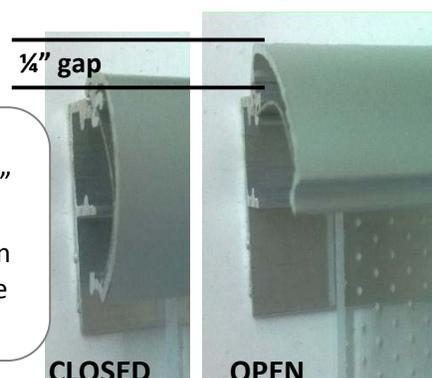

Figure 2
1. Cut molding to proper size & attach to the wall (find studs on wall for this). Insure that the screws used do not protrude but are as flat as possible( See figure 1) **Note:** if using snap frame make sure to allow a minimum ¼ inch gap above molding so the molding can open and close properly), ( see figure 2).